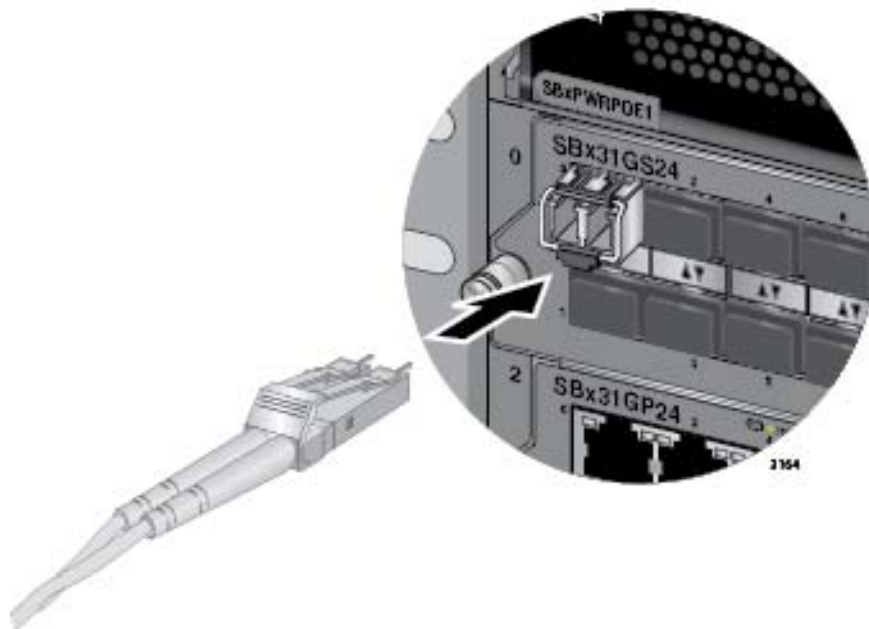

Figure 104. Attaching a Fiber Optic Cable to an SFP Transceiver in the AT-SBx31GS24 Line Card
6. Connect the fiber optic cable to the port on the transceiver, as shown in Figure 104. The connector should snap into the port.